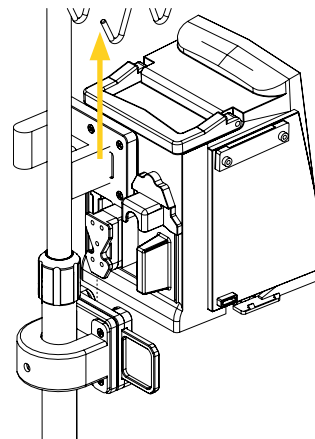

Figure 8: Removing the medical device from the mounting system
1. Press and hold the quick-release button of the mounting system's Flex Sequ, then pull the medical device out of the system vertically (Figure 8). Refer to the Flex Sequ User Manual if needed.